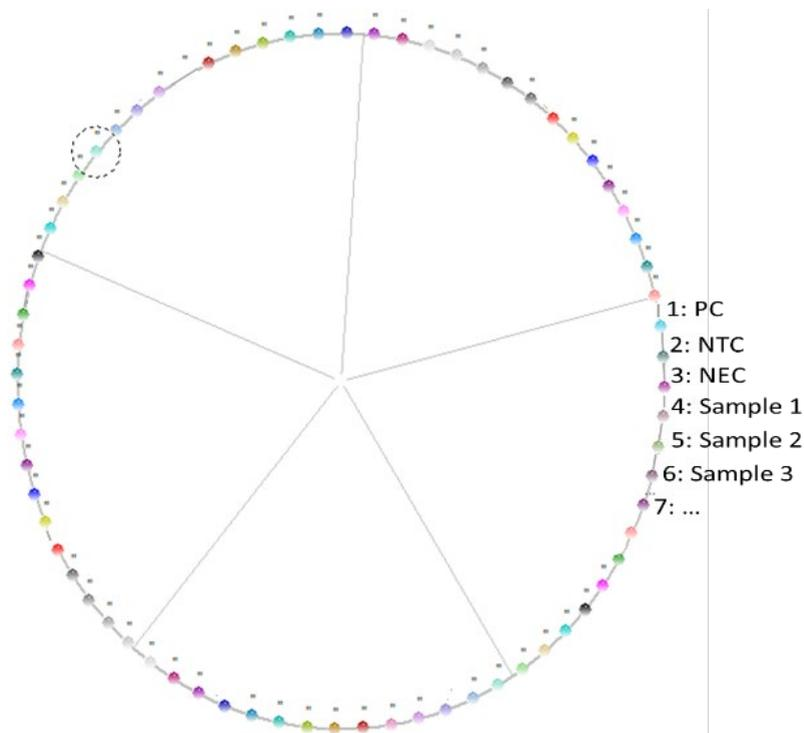

Figure 2. Example of tube layout on the RGQ MDx 5plex HRM platform.
9. Add 15 µL of the reaction mix prepared in Step 4 to the tubes dedicated to samples and controls (Figure 2 provided as an example). Mix by pipetting up and down 5 times, then close the PCR tube lids, except for the one reserved as the SARS-CoV-2 Positive Control.
12. Place tubes in the real-time cycler (an example of tube layout is represented in Figure 2), and start the cycling program as described in Table 3.